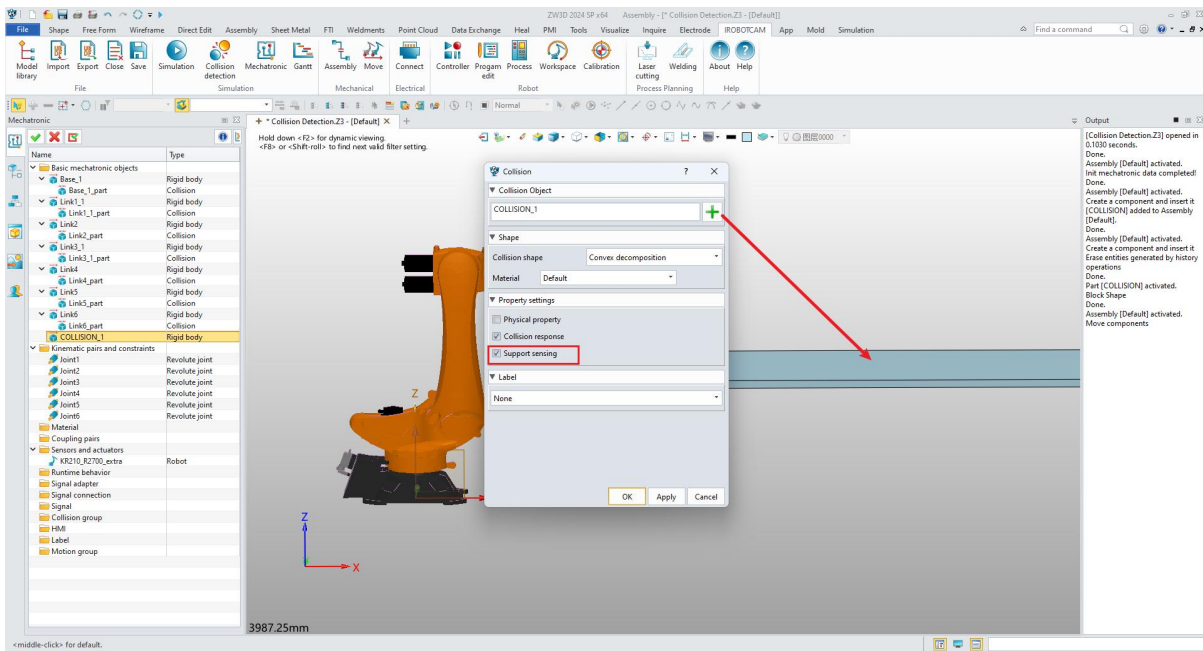

Figure 11-11: Add rigid body and collision
- In the collision window, Under “Property Settings”, select “Support Sensing”. (Figure 11-11)